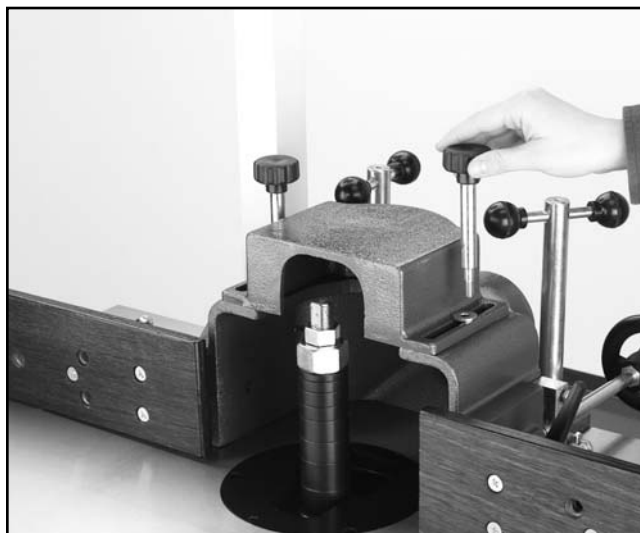

Figure 18. Guard cover.
1. Place the guard cover over the threaded holes on top of the guard body as shown in **Figure 18**.